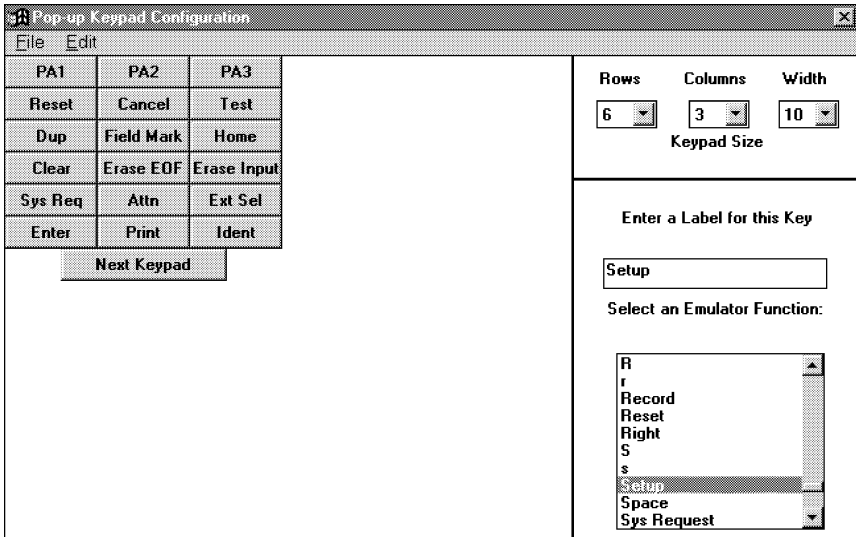

Figure 2-13. Popup Keypad Configuration dialog box.
- Select the Pop-Up Keypad file you would like to modify. The keypad configuration dialog box will appear as shown in Figure 2-13 on the following page: